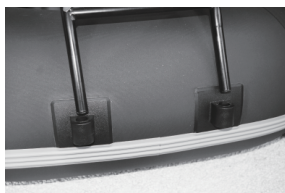

Fig.3.1
- Put straight tubes of the motor mount onto the boat fitting holes. (Fig.3.1)